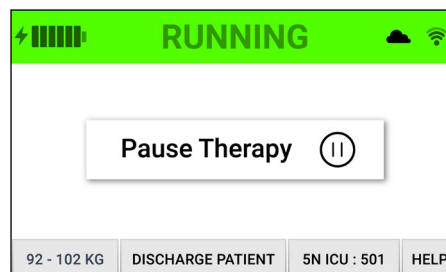

Figure 8 Running screen: procedural area use systems
1. Therapy can be stopped by pressing "Pause Therapy" on the running screen. (Fig. 8)